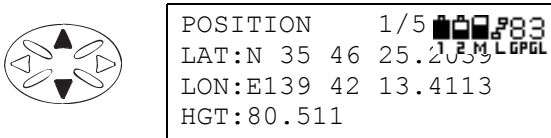

Figure 3-64. Position's Coordinates
- the position's coordinates (WGS84) (Figure 3-64).